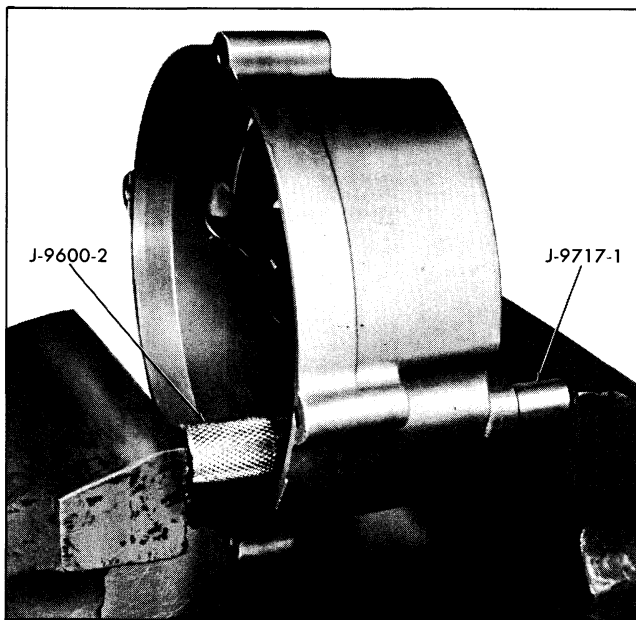

Fig. 11-22 Installing Diode
4. Place slip ring end frame in a vise so that new diode is in position and remove J-9717-1 support casting (Fig. 11-22).